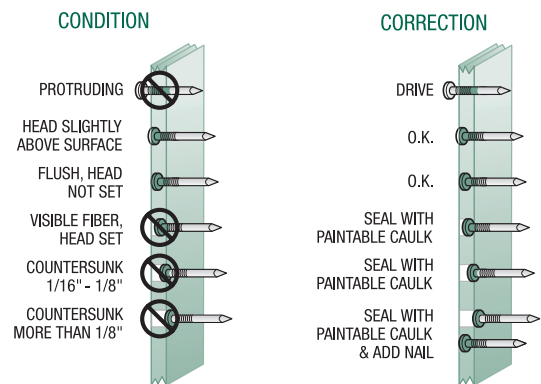

FIG. 1
- Nails must penetrate wood framing 1-1/2". *See Fig 1.*
- Avoid countersinking nails or rupturing the surface of the trim. If countersinking occurs, caulk nail prior to painting. *See Fig 1.*